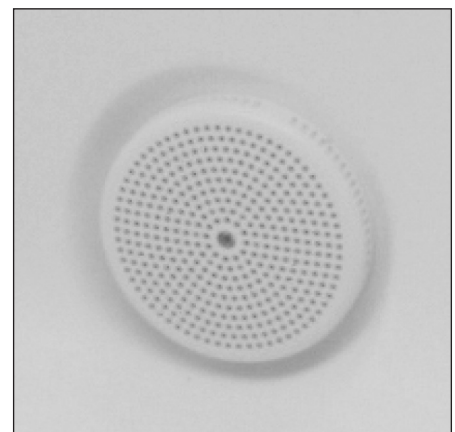

Figure 1
- The safety suction cover is not in place. The suction cover is the large fitting with a pattern of holes on its face, mounted on the bathtub's side wall. See Figure 1.